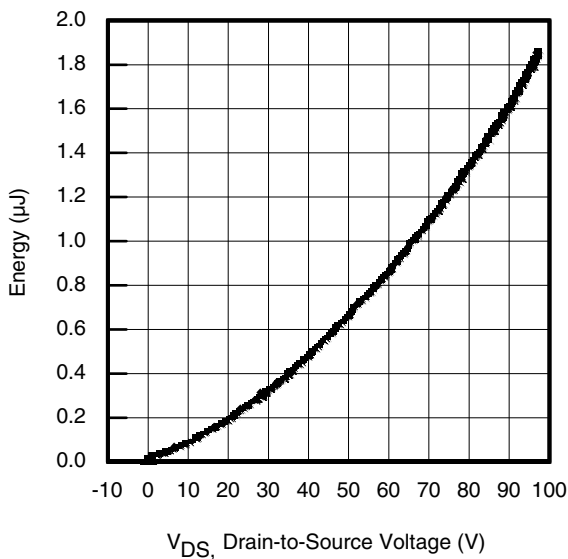

Fig 11. Typical C_{OSS} Stored Energy
| C _{oss eff. (ER)} | Effective Output Capacitance (Energy Related) ^⑥ | — | 420 | — | | V _{GS} = 0V, V _{DS} = 0V to 80V ^⑦ , See Fig.11 |